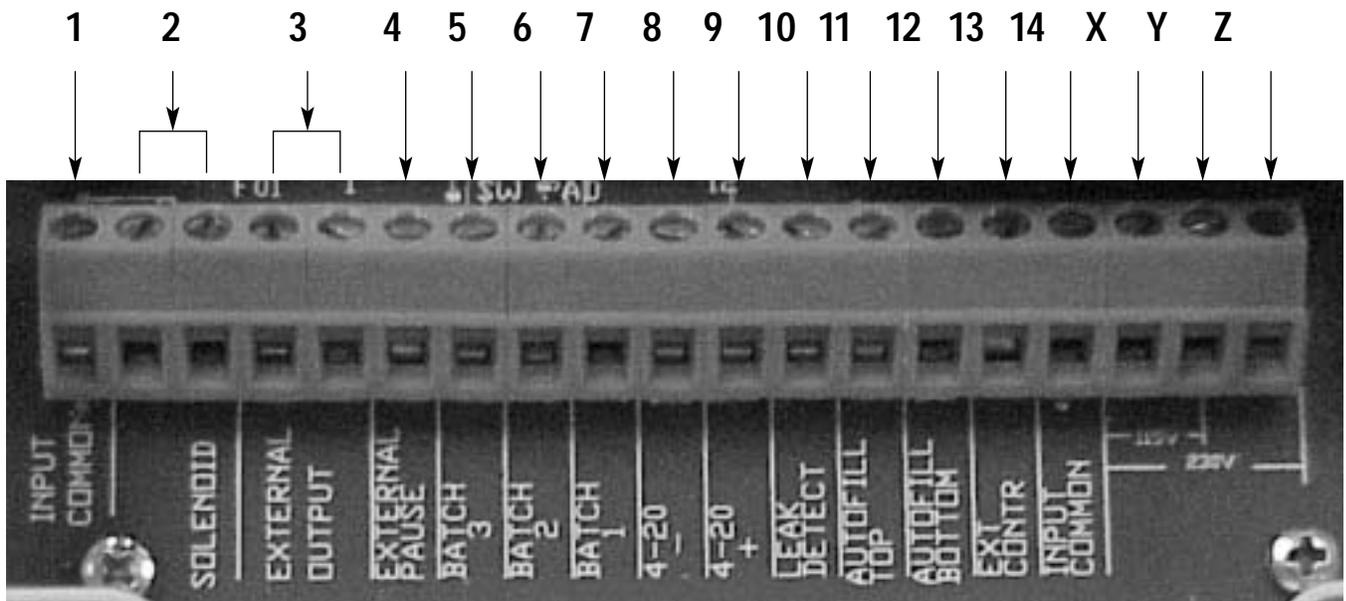

Figure 1
- 110–120V AC 50/60 Hz (Figure 1, pg. 5A, X and Y).
- 220–230V AC 50/60 Hz (Figure 1, pg. 5A, X and Z).
a dry contact closure (relay or switch). This will remotely switch the FCSII to the stop mode. (See Figure 1, pg. 5A, Number 10.)
terminal (Figure 1, pg. 5A, number 11).
The other bottom lead is connected to the "Bottom" terminal (Figure 1, pg. 5A, number 12).
1. The "Bottom" switch which is normally closed (i.e. closed when not buoyed by liquid) remains in the bottom position, but is wired to the "Top" terminal (Figure 1, pg. 5A, number 11).
2. The "Top" switch which is normally open (i.e., open when not buoyed by liquid) remains in the top position, but is wired to the the "Bottom" terminal (Figure 1, pg. 5A, Number 12).